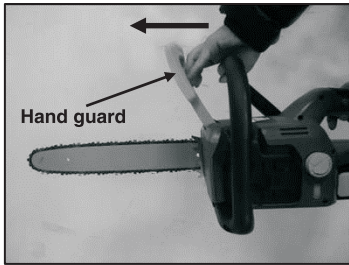

Fig.9
**⚠ WARNING:** If any emergency happens during operation just push forward the hand guard for your personal safety. (Fig.9)